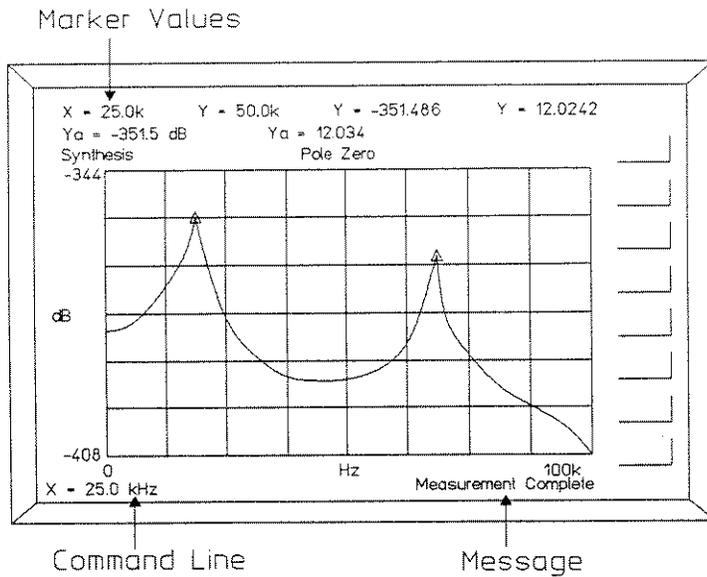

Figure 3-2. HP 3563A Display
3. Record the position of the X and Y markers as indicated for each test. Refer to Figure 3-2 for an example of the position of the X and Y marker readings. Additional information about reading the X and Y marker positions is available in the *HP 3563A Operating Reference Manual*.
The instrument will not record any keystroke during a calibration cycle or a measurement. A status message appears in the lower-right corner of the display. Refer to Figure 3-2.